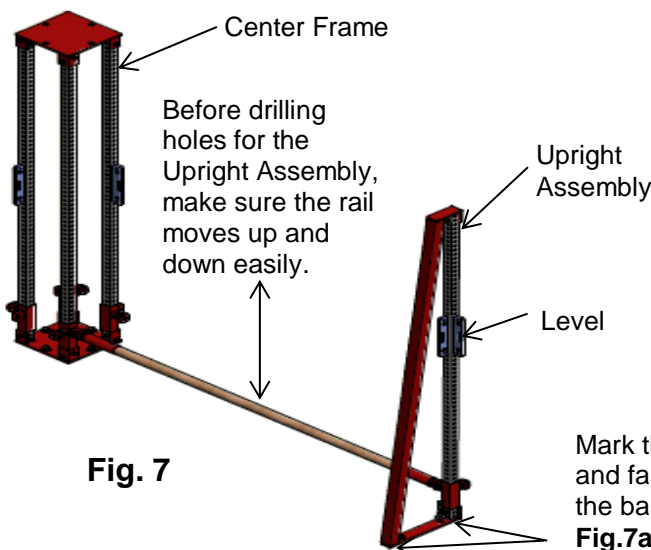

Fig. 7
2. Set the **Rail Carrier** to the lowest position on the **Adjusting Tubes**. Make sure the **Spin Snap Lock** engages into the hole on the **Adjusting Tubes** in the same hole positions, but do not tighten the **Snap Lock** at this point (see Fig. 7).
1. Make sure the **Upright Base Plate** is sitting flat on the concrete. Locate and mark the location of the **Upright Base Assembly** concrete anchors, using the **Upright Base Assembly** as a guide (see **Fig. 7**).
2. Drill and install **(2)** concrete anchors using the **Upright Assembly** as a guide (see **Fig. 7 & 7a**).
4. Check installed **Upright Assembly** to make sure it is sitting flat on the concrete floor. Once the bolts are properly tightened, make sure the **Upright Assembly** is level (see **Fig. 7**).